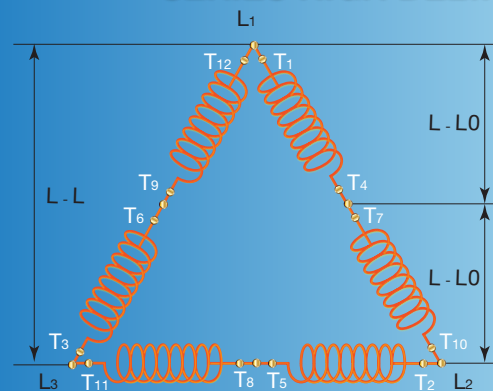

Figure 1C
6.3 SERIES HIGH DELTA - As illustrated in **Figure 1C** each pair of coils are in series connected end to end, but this time in a delta configuration. Again, the high format relates to the higher voltage. It is also possible to have a single phase with a connection to the center tap, as indicated in **Figure 1C** where T4 and T7 connect with a link L - L0.